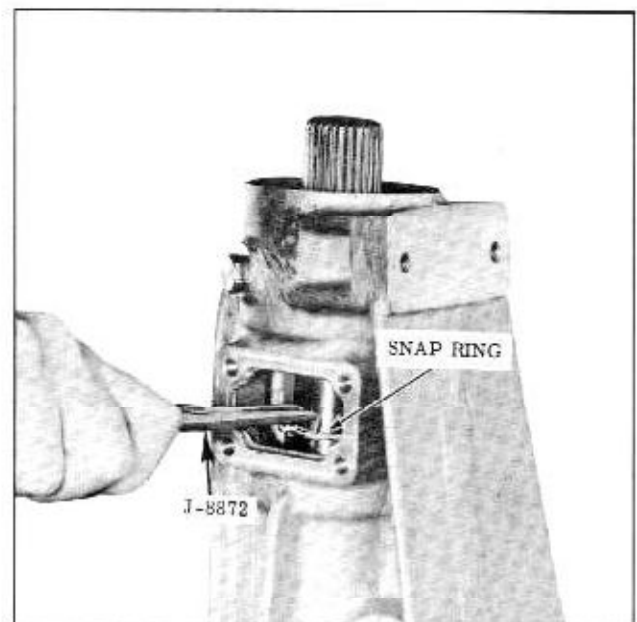

Fig. 3-115 Installing Snap Ring
8. Start rear bearing retainer down over output shaft and install rear output shaft snap ring through access hole and over end of output shaft while retainer is being carefully lowered over governor assembly. (Fig. 3-115)